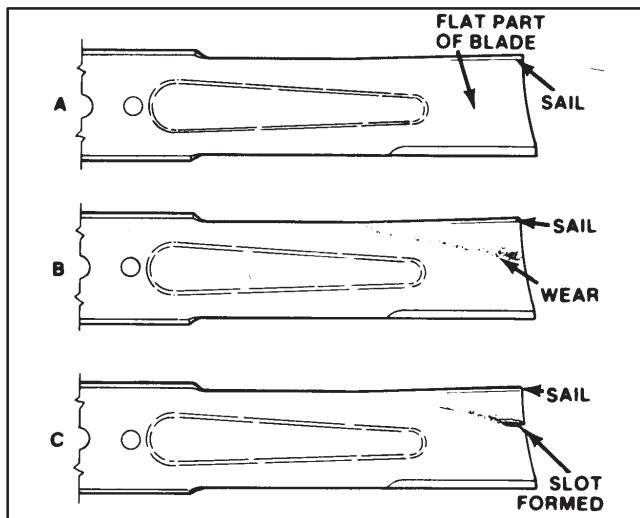

Figure 28
(Fig. 28 – 29)
4. Examine cutting ends of the blade carefully, especially where the flat and curved parts of the blade meet (Fig. 28–A). Since sand and abrasive material can wear away the metal that connects the flat and curved parts of the blade, check the blade before using the machine. If wear is noticed (Fig. 28–B), replace the blade: refer to Removing Cutter Blade.
If blade is allowed to wear, a slot will form between the sail and flat part of the blade (Fig. 28–C). Eventually a piece of the blade may break off and be thrown from under the housing, possibly resulting in serious injury to yourself or bystander.